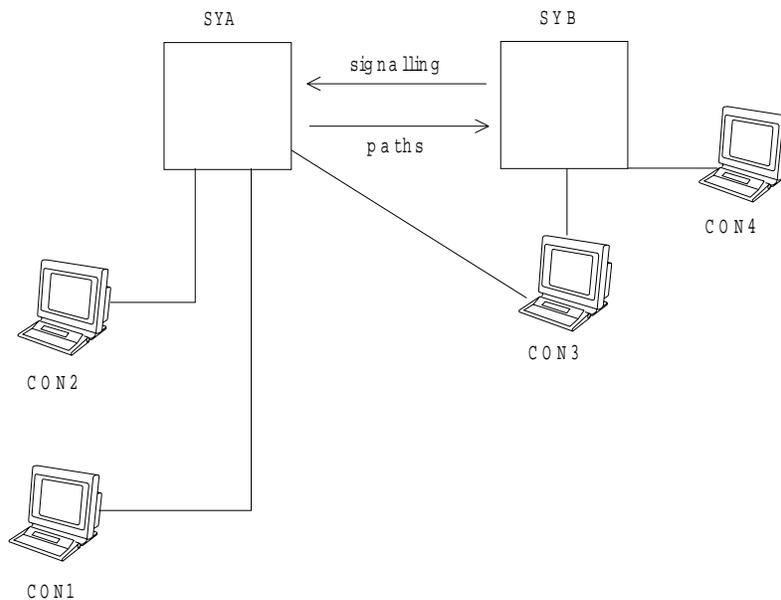
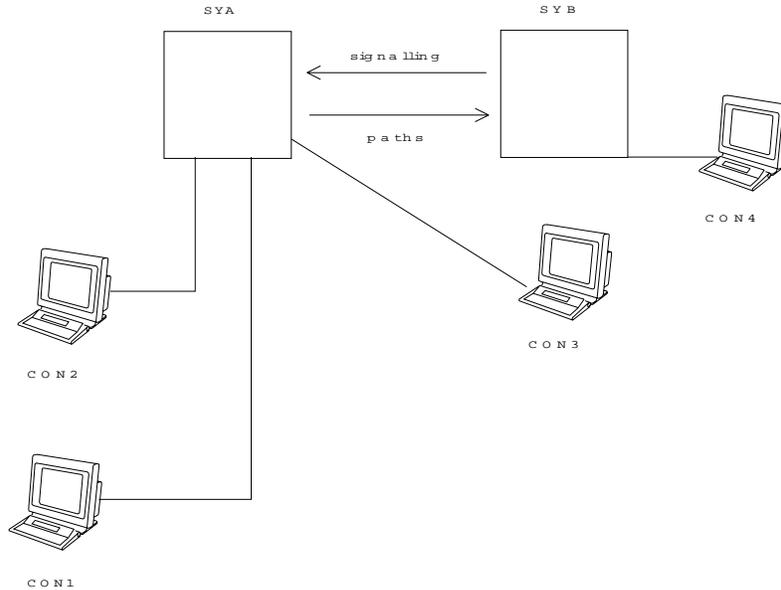

Figure 3. Console Configuration in a Sysplex with Two Systems and Four MCS Consoles
Figure 4. Console Configuration in a Sysplex with Two Systems and Four MCS Consoles
In Figure 3, systems SYA and SYB share the same CONSOLxx member. SYA has three physically attached consoles (CON1, CON2, and CON3); SYB has two physically attached consoles (CON3 and CON4).
- With names specified for all consoles in the configuration, MVS uses only four IDs and saves on the maximum number of console IDs (99) that MVS can assign in a sysplex. If you did not name the consoles in this example, MVS would use eight separate IDs (one ID for each console statement in the sysplex).
- A console can be active on only one system at a time. In Figure 3 on page 22, CON3 is physically attached to both SYA and SYB. Without specifying SYSTEM(SYB) for CON3, CON3 would become active on either SYA or SYB, whichever system joins the sysplex first. Specifying SYSTEM(SYB) ensures that CON3 is activated only on SYB.
You can define separate CONSOLxx members for each system in the sysplex. Like Figure 3 on page 22, Figure 4 on page 24, shows SYA with three physically attached consoles (CON1, CON2, and CON3) and SYB with one physically attached console (CON4). Console statements are defined in two CONSOLxx members, one for each system in the sysplex.
If SYA in Figure 3 on page 22 fails, the sysplex is unable to use any MCS consoles because SYB does not have any CONSOLE statements defined in its CONSOLxx member. Using the system console and defining alternative consoles, such as SMCS consoles or extended MCS consoles, are ways to resolve the problem.